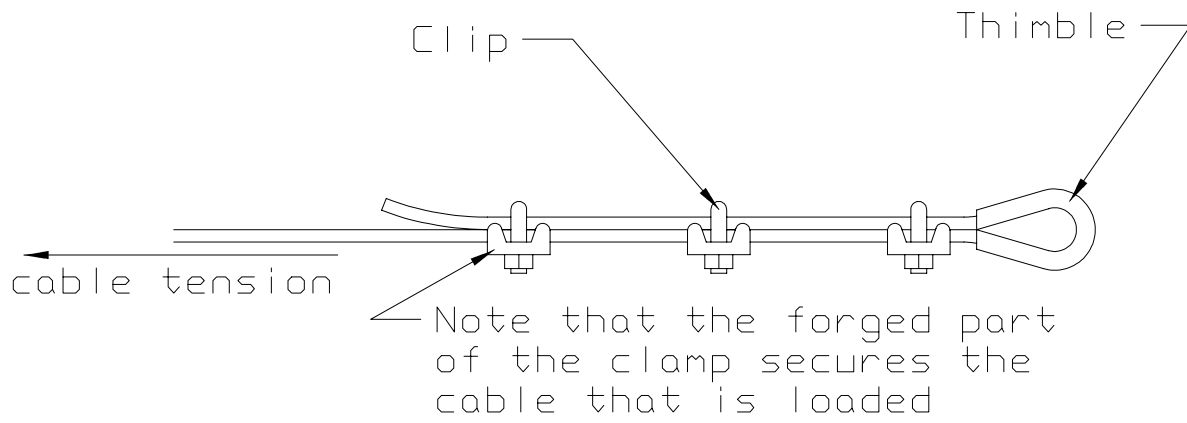

Figure 9.2
- Guy wires should be as tight as possible pulling by hand. Six inches of side-to-side slack at the end of the lift pole is acceptable. Three cable clamps shall always be used to secure each end of the guy cables. Be sure that the forged side of the cable clamp is used on the cable that is under load (see Figure 9.2).
- You should have around five feet of cable on each end to make the connections with the cable clamps. Again, be sure that the forged side of the cable clamp is used on the cable that is under load (see Figure 9.2).
- Attach the side and rear wires securely as shown in the drawing with three clamps on each wire. Use 30 ft-lb. of torque on each nut. It is important (for good strength) that the saddle part of each clamp is on the loaded (tower) side of the guy wire (see Figure 9.2).